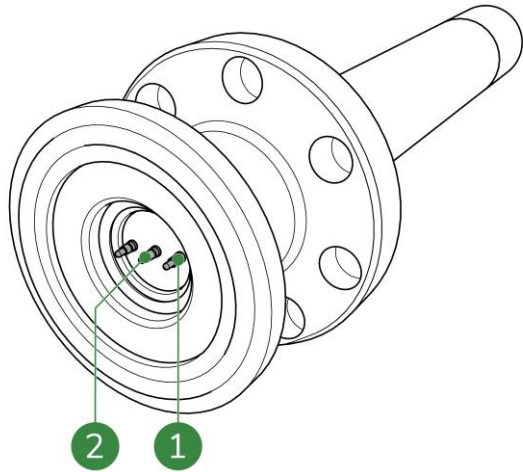

Figure 8-16: Connection pins
9. Check and (if needed) clean the connection pins and rings carefully (Figure 8-16, pos. 1).